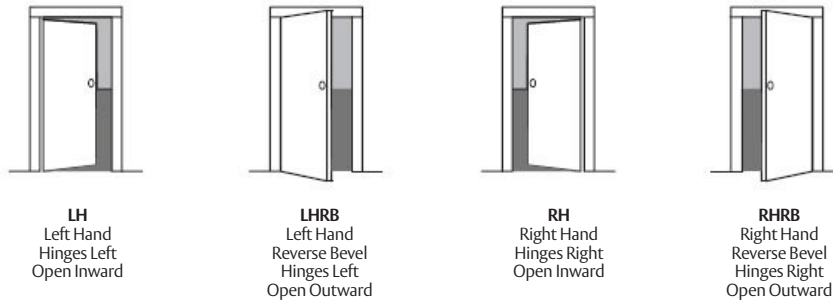

Figure 7
1. Verify hand and bevel of door. (Figure 7)